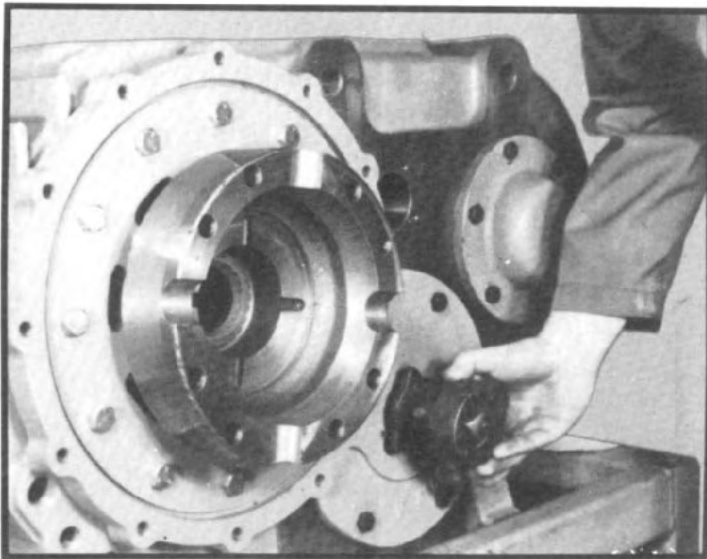

Fig. 51
- 2.16 Tap pump lightly to loosen and withdraw pump. (See fig. 51.)